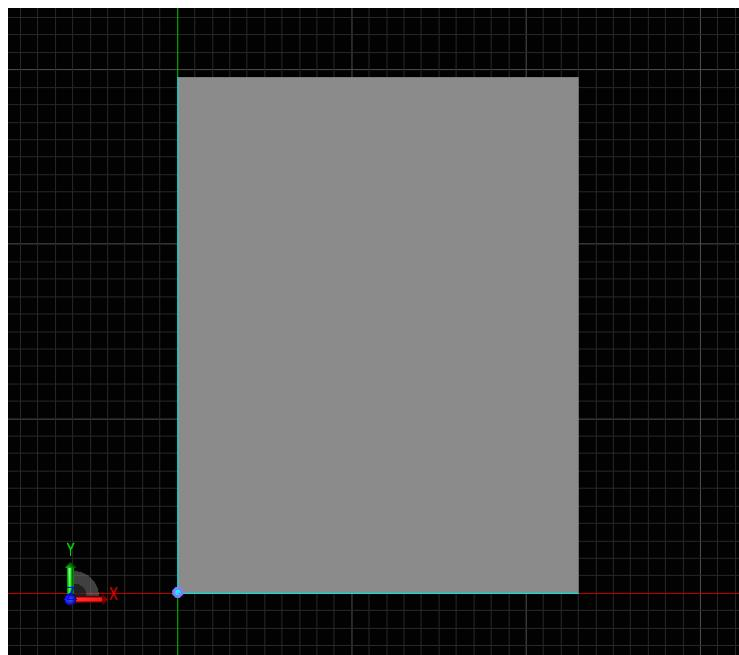

Figure 3.8: Picking the Origin
- Mouse over the SUBSTRATE and click on the Lower X, Lower Y corner (Figure 3.8) to set the orientation for the correct placement of the SHEET BODY. If placed correctly, the data in the ORIGIN section of the SPECIFY ORIENTATION tab should be as follows: X: 0 mm, Y: 0mm, Z: 0.794 mm.